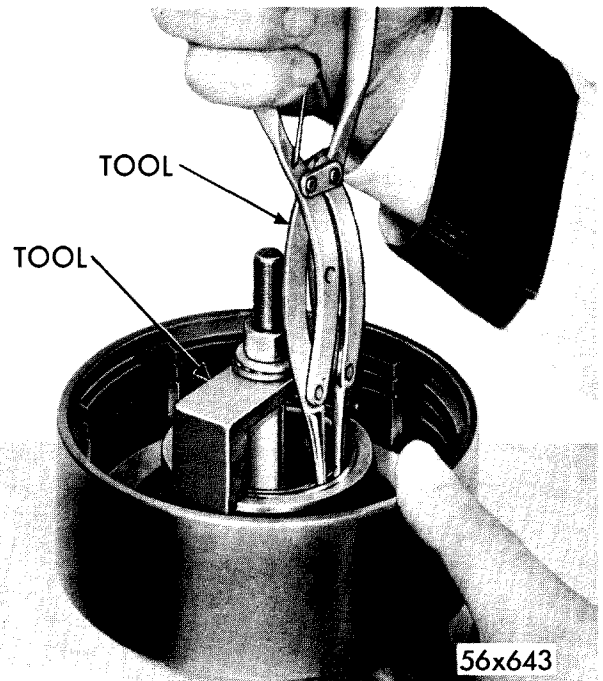

Figure 211—Removal and Installation of Rear Clutch Return Spring Retainer Snap Ring
Remove rear clutch pressure plate (L) from retainer assembly. Invert clutch piston retainer assembly and remove the clutch plates (N) and driving disc (M) assemblies (four each). Using compressor, Tool C-3575, slightly compress the rear clutch piston return spring retainer, as shown in Figure 211. Use extreme care not to damage piston return spring retainer by compressing spring too far.
Install piston return spring on hub and position spring retainer and snap ring on spring. Using compressor, Tool C-3575, compress the clutch spring sufficiently to seat the snap ring, as shown in Figure 211. Piston spring retainer may require guiding past the clutch hub. Make sure snap ring is properly seated.